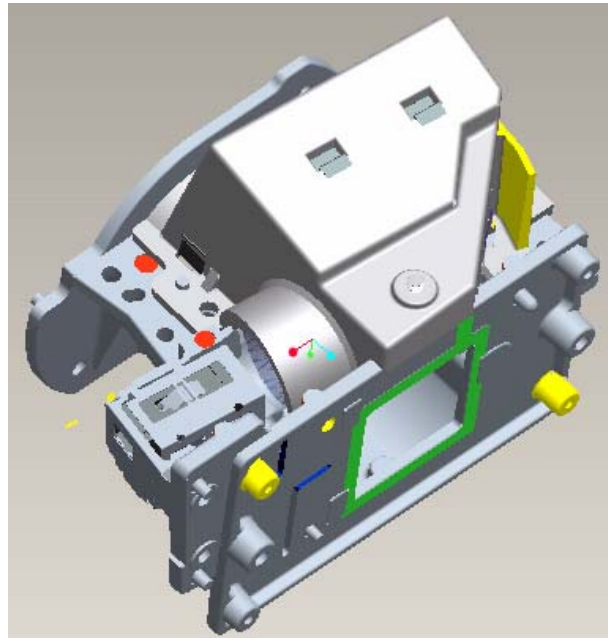

Fig. 7-2
7.2 Assemble” HSG ILL Module” to HSG DMD and cover over on “AL” (Fig. 7-2)